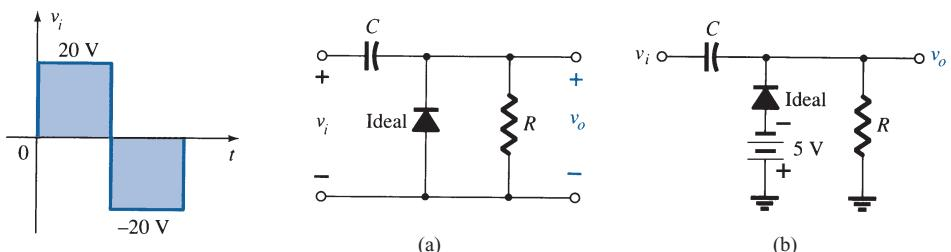

FIG. 181
37. Sketch v_o for each network of Fig. 181 for the input shown.